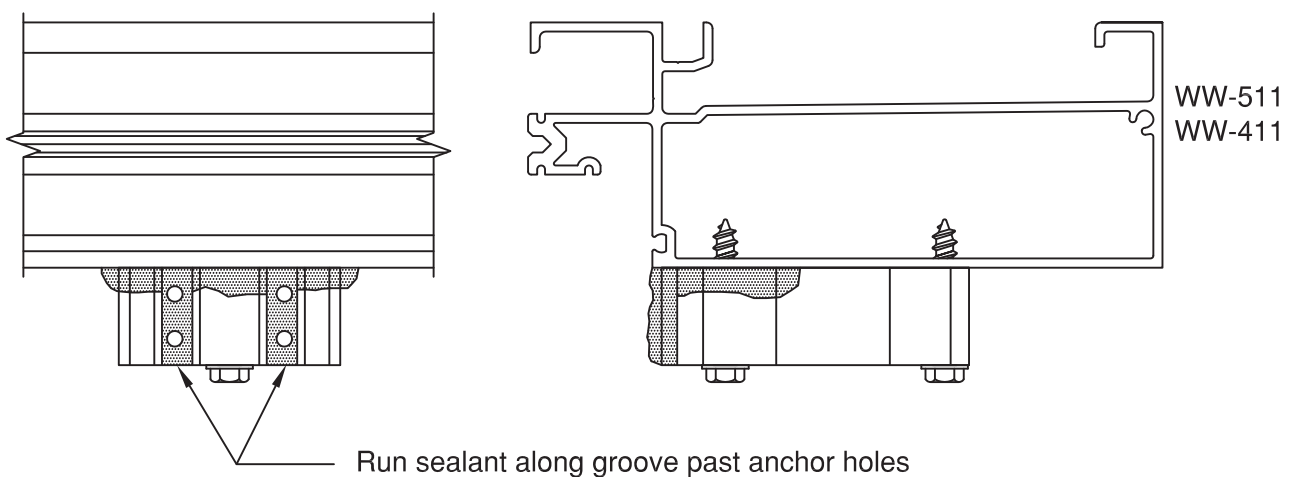

Figure 38
D.7 Assemble verticals, sills and head member together on the ground. seal the verticals to the head member per FIGURE 38. Lift into the opening and anchor to structure. When frame is in place, install horizontals as required. Note: If tubular intermediate horizontals are used, they must be installed with the rest of the frame before it is lifted into the opening.